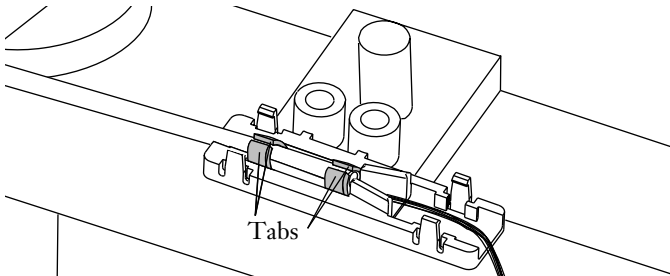

Figure 12
**6.9** Use pliers to gently bend the crimps tabs over the end of the buffer tube (Figure 12).